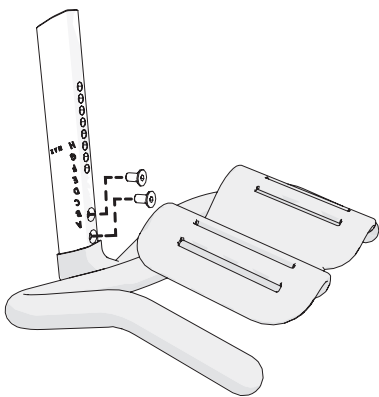

Figure 8
1. Position the handlebar post onto the handlebar assembly (Figure 8). Attach it using two bolts ⑤ and tighten them with a hex key ⑩.